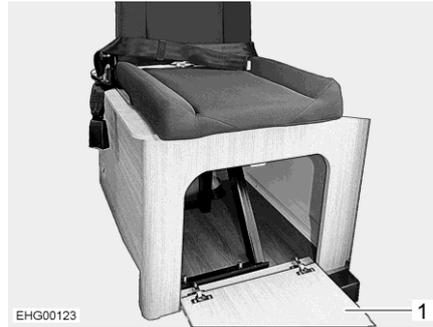

Fig. 31 Chest frame (open)
- Fold flap (Fig. 31,1) on the chest frame downwards.